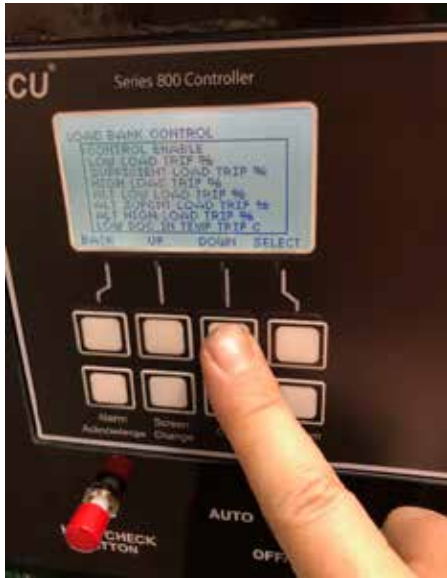

Figure 26. Control Enable
6. Scroll down the list and select **CONTROL ENABLE** (Figure 26).